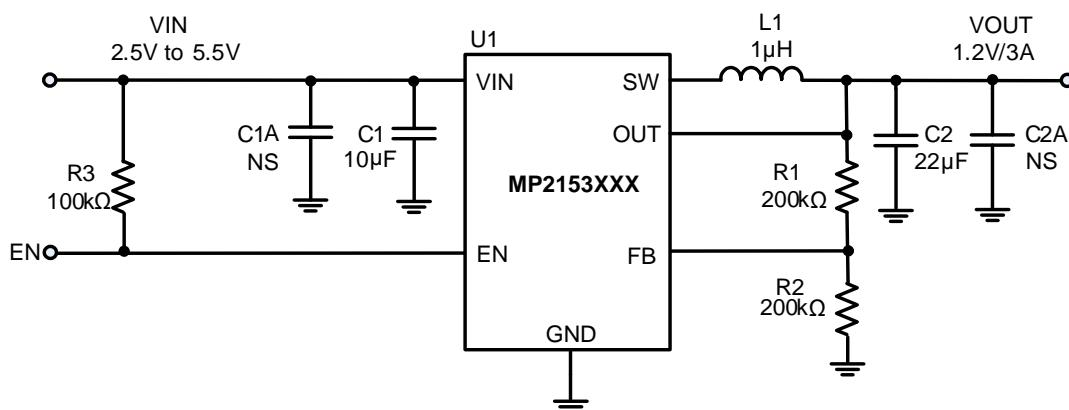

Figure 11: Typical Application Circuit for MP2153XXX
The external resistor divider sets the output voltage (see the Typical Application Circuit shown in Figure 11). Select a feedback resistor (R1) that will reduce the V_{OUT} leakage current (typically between 100 - 200kΩ). There is no strict requirement on the feedback resistor. An R1 value higher than 10kΩ is reasonable for most applications. Then determine R2 with Equation (2):